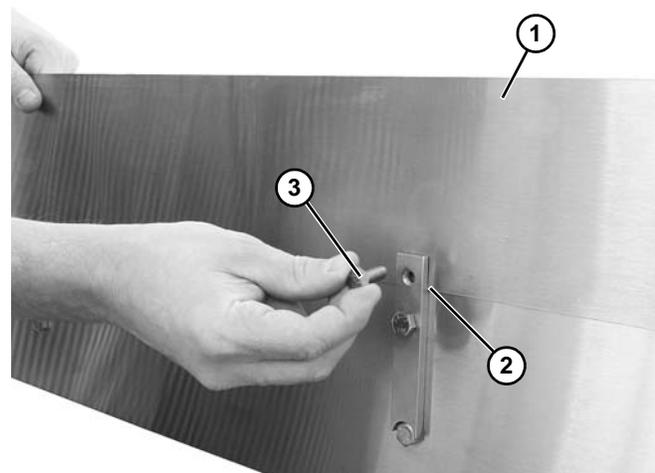

Figure 22
3. Install guide (Figure 22, item 1) into slot (Figure 22, item 2) between conveyor and bracket.
4. Secure guide with screw (Figure 22, item 3).